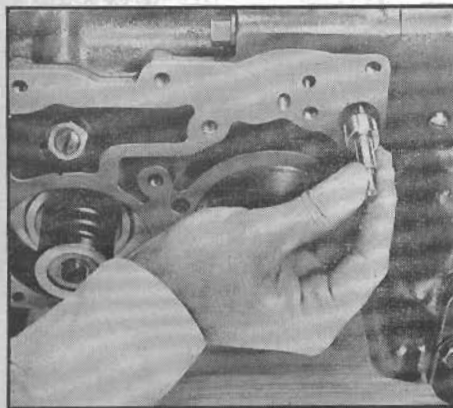

Fig. 9 Removing pressure regulator valve
11. Remove reverse servo spring and pressure regulator springs and valve, Fig. 9. *Handle this valve carefully and lay aside to prevent damage.*